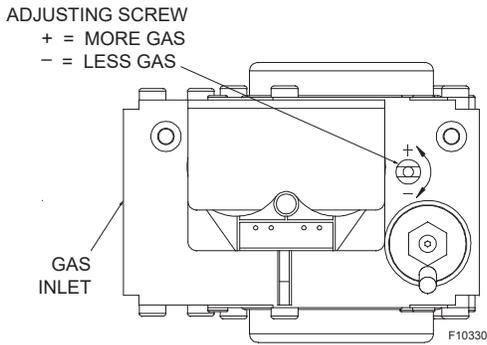

Figure 41. Gas Valve
3. To decrease the manifold pressure and decrease the ratio of fuel to air turn the adjustment screw clockwise (toward the -) (See **Figure 41**). Decreasing manifold pressure will reduce the CO₂ percentage in the flue gases.
4. Locate and remove the (4) bolts & nuts holding the gas orifice in place. See **Figure 41** above.